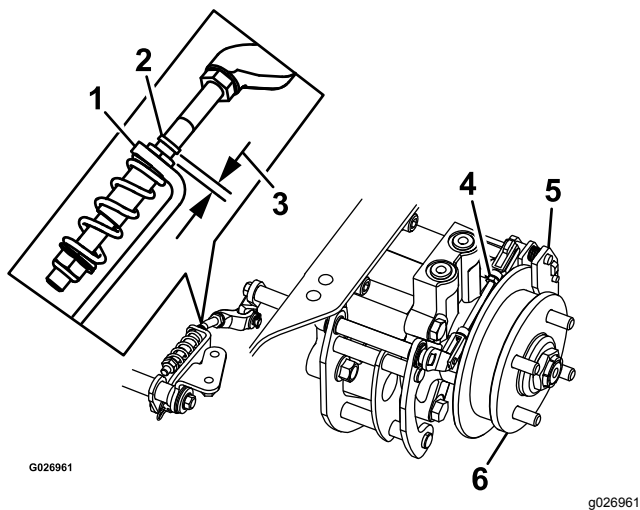

Figure 84
8. Check if there is a visible gap between the L-bracket and the linkage stop (Figure 84).